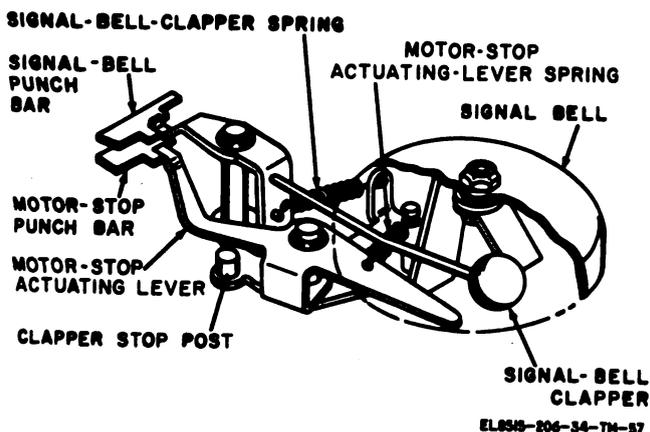

Figure 2-57. Signal bell mechanism.
b. *Ringling Signal Bell.* Immediately after the function-selecting arm is positioned (a above), a lobe of the function cam (fig. 2-30) causes the function-cam follower to pivot counterclockwise, moving the function-selecting arm against the signal-bell punch bar (fig. 2-57). The signal-bell punch bar moves inward, pivoting the signal-bell clapper against the signal bell. After the bell rings, the function cam moves the function-selecting arm away from the signal-bell punch bar; the signal-bell-clapper spring pulls the clapper away from the bell and the signal-bell punch bar moves to its normal outward position.
- 8 Lobe of print cam causes type-selecting arm to move forward (fig. 2-26). Lobe of function cam pivots function-cam-follower, causing function-selecting arm to push signal-bell punch bar inward (fig. 2-57).
(1) Immediately after the function-selecting arm is positioned (*a* above), a lobe of the function cam (fig. 2-30), causes the function-cam follower to pivot counterclockwise, and move the function-selecting arm against the motor stop punch bar (fig. 2-57). The motor-stop punch bar moves inward (platen in
| 9 | Letter H type bar swings upward: motion of type bar halted be- | Motor-stop punch bar pivots motor-stop actuating lever (fig. 2-57); actuating lever |